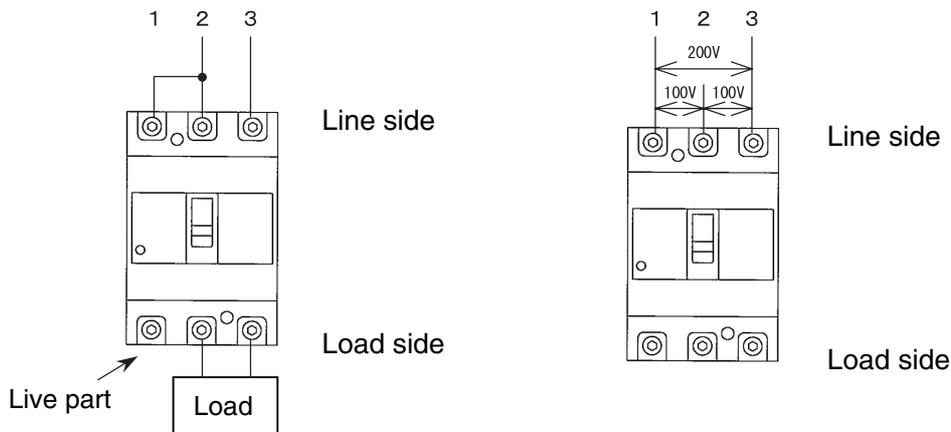

Fig1. Connection of using in 1 phase 2 wire. Fig2. Connection of using in 1 phase 3 wire.
- When MDU is used in 1 phase 2 wire, the connection is shown in figure 1.